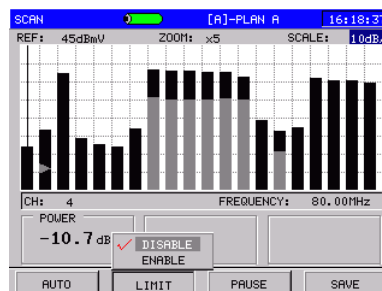
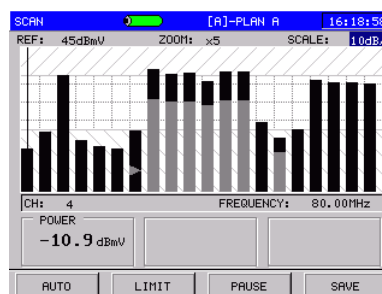

Figure 3-5-2
Figure 3-5-3
LIMIT(F2): After Pressing LIMIT soft key and choosing **ENABLE** as Figure 3-5-2, limit display will be enable as Figure 3-5-3, and there are two lines that means the highest and lowest video level. The channels between the two lines are eligible. The information of current channel will display on the bottom of screen. (Limit parameters setup, please refer to item 4.4.4)